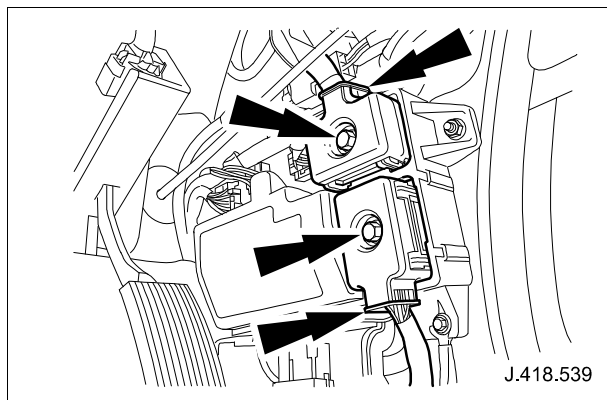

Fig. 9
- 3.4 Check primary junction box connections (located in right-hand side A-post fusebox), as shown in Fig. 9. (Torque tighten to $3.2\text{Nm} \pm 0.5\text{Nm}$)